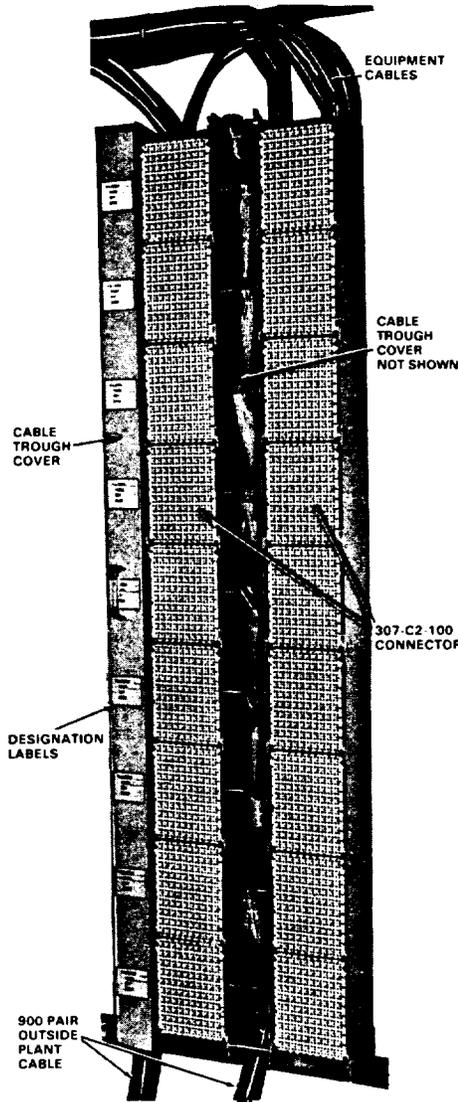

Figure 9. AT-9049B Protector and Cable Enclosure (Left-to-Right Growth) Two B Units Shown (Total Capacity 1800 Pairs)
4.14 The AT-9049B (Figure 9) and AT-9049C frames each terminate and protect 900 outside plant pairs. The B unit is designed for lineup growth from left to right, and the C unit for growth from right to left.